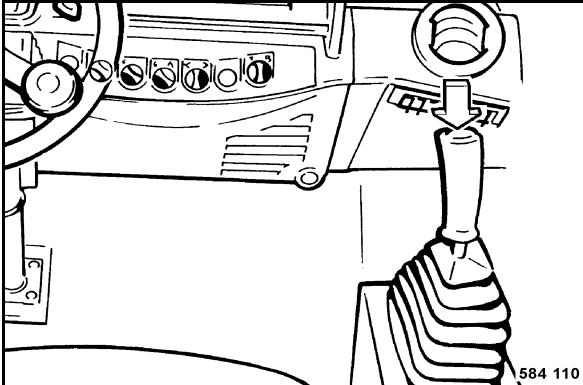

Fig. 66
- Actuate the vibration push button (Fig. 66) in the travel lever while driving.
- Press the vibration push button (Fig. 66) again.